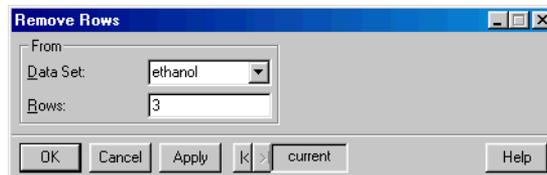

Figure 2.30: The *Remove Rows* dialog.
- From the main menu, choose **Data ► Remove ► Row**. The **Remove Rows** dialog opens, as shown in Figure 2.30.